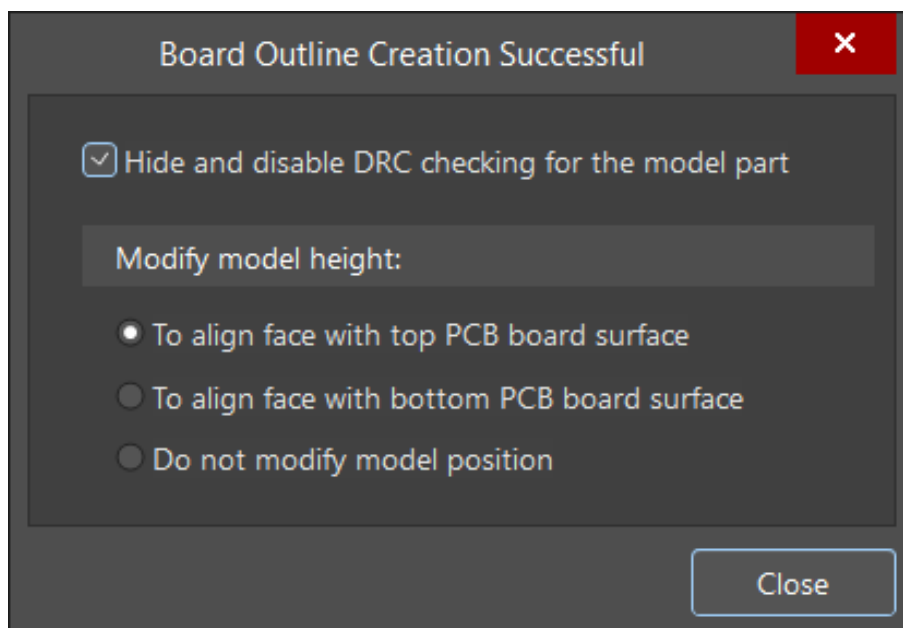

Figure 6. Board outline successful dialog
29. Accept the default values for the *Board Outline Creation Successful* dialog by clicking on the **Close** button, as shown in Figure 6.